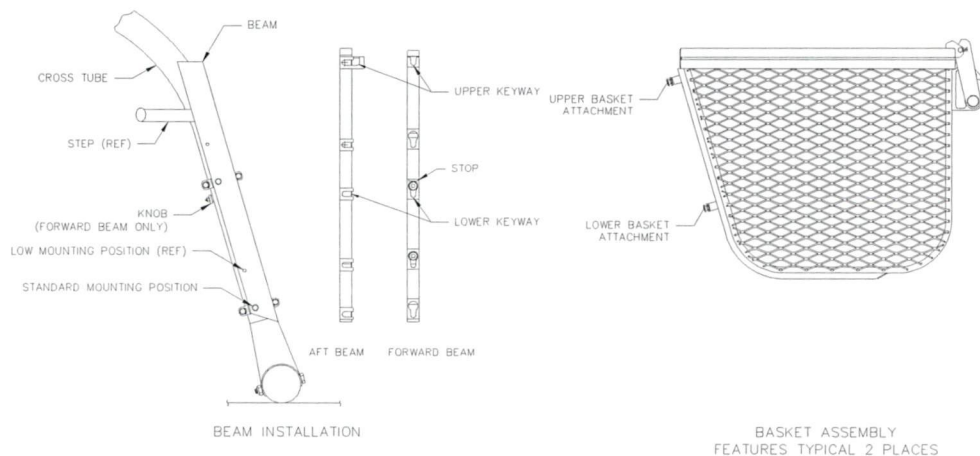

Figure 1 – Basket Attachment Features (Low beam installation shown. Beam attachment features typical for low and high beam installations)
6. Installation - Refer to Figure 1 and Figure 2.
2. Removal - Refer to Figure 1 and Figure 2.